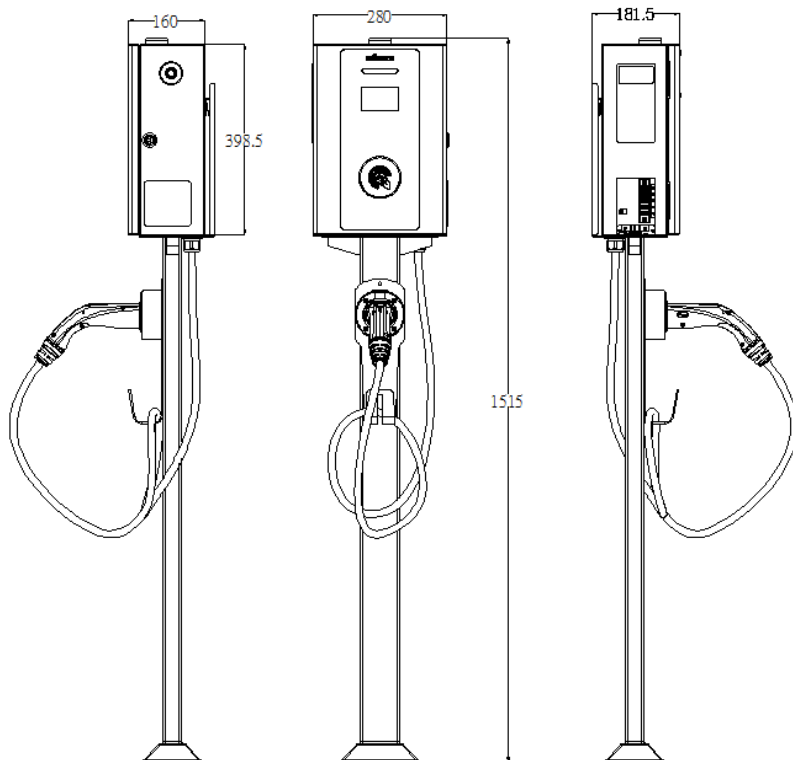

Figure 7.1.2 Dimension of the EV charger
(2) Dimension and size of the EV charger is shown as figure 7.1.2 and chart 7.1.1